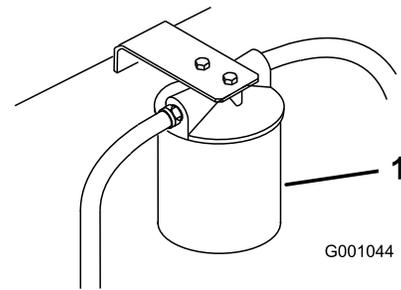

Figure 96
- Place drain pan under filter, remove the old filter and wipe the filter adapter gasket surface clean (Figure 96).